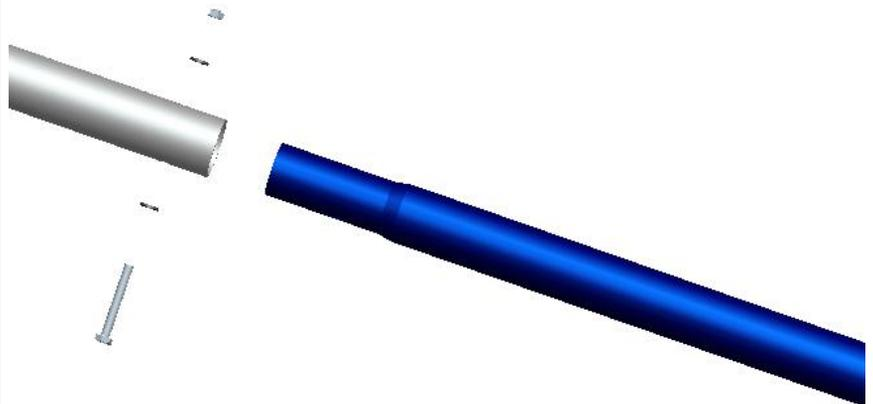

Figure 12
Locate two Leg Sections #2 (#11). Install two Middle Leg Sections #2 (#11) onto the Upper Leg Sections #3 (#11) using two (2) M6x50 Bolts, four (4) Steel Washers and two (2) Locknuts as shown in Figure 12.